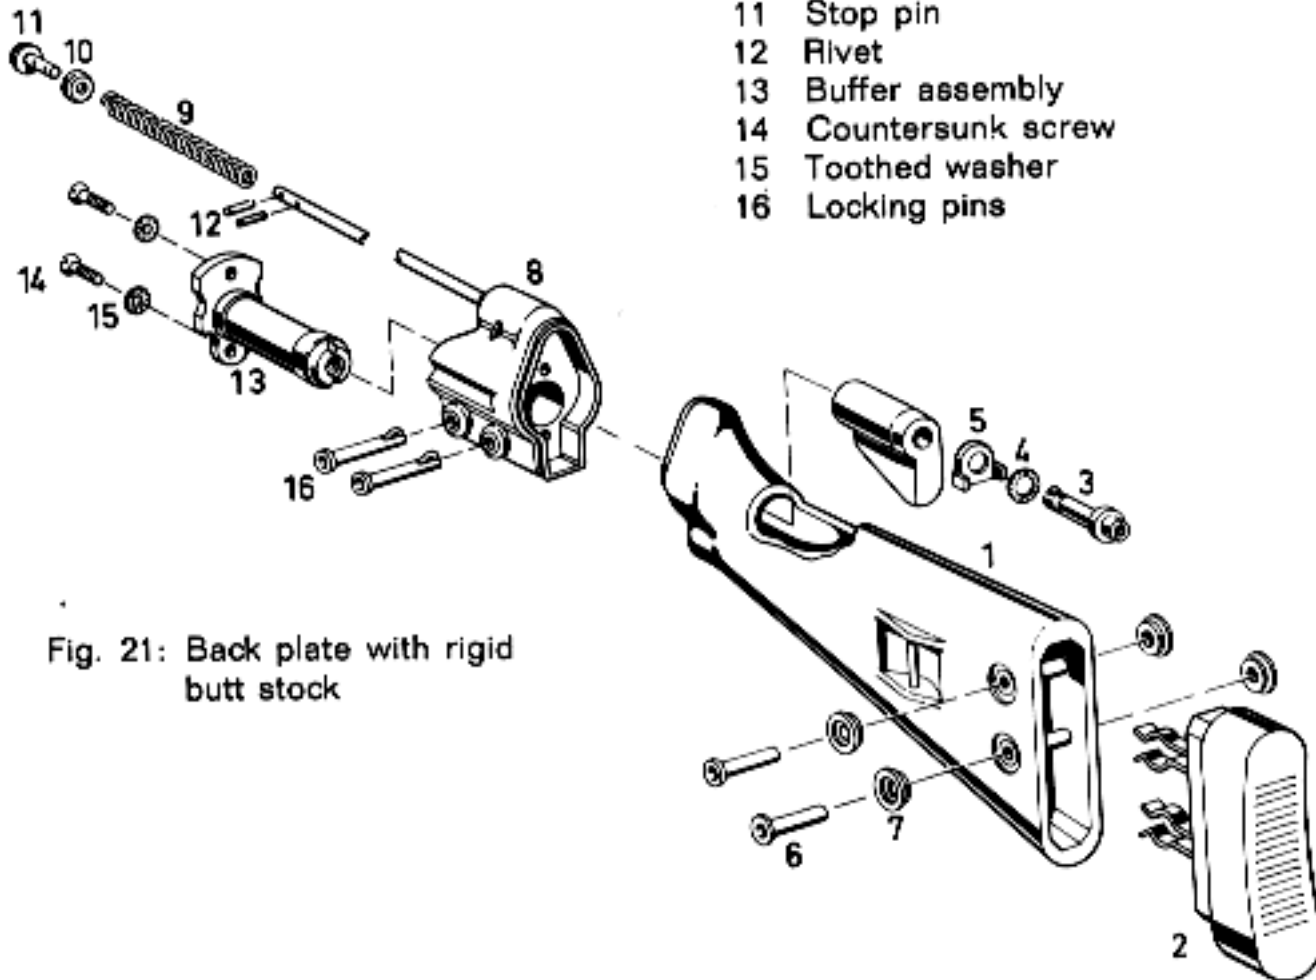

Fig. 21: Back plate with rigid butt stock
(1) Back plate with rigid butt stock (Fig. 21)